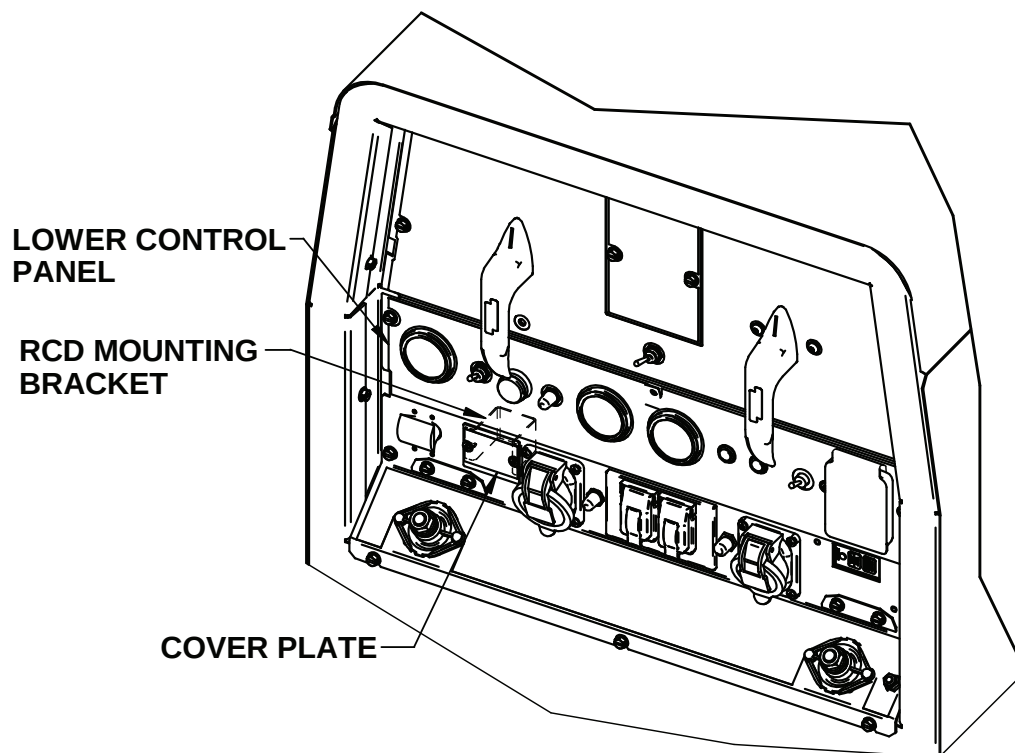

FIGURE 1
3. WHILE HOLDING THE RCD MOUNTING BRACKET REMOVE THE TWO SCREWS SECURING THE COVER PLATE AND RCD MOUNTING BRACKET. SET THE RCD MOUNTING BRACKET AND SCREWS ASIDE AND DISCARD COVERPLATE. (SEE FIGURE 1).